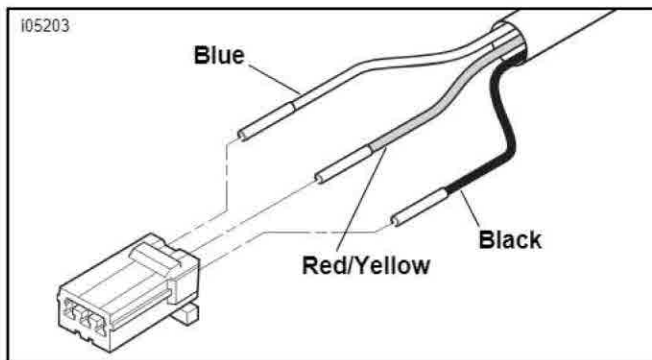

Figure 2. Wiring the Socket Housing
10. Insert the wires from the license-plate frame, one at a time, through the grommet (10) in the fender. Pull the wires and conduit through the grommet to the underside of the fender.
12. See Figure 2. Insert the license plate frame harness wires into the socket housing (9) from the kit as shown. Refer to AMP MULTILOCK ELECTRICAL CONNECTORS in the Service Manual.